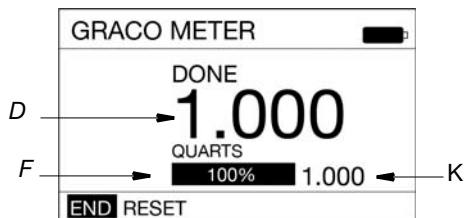

FIG. 33
- The screen shown in FIG. 33 displays. Notice the word "DONE" near the top of the screen, confirming the requested PRESET amount of fluid has been dispensed. The progress bar (F) now is entirely filled in and shows 100% of the fluid requested has been dispensed and the Dispensed Fluid Counter (D) now shows 1.000 matching the chosen PRESET parameters (K).